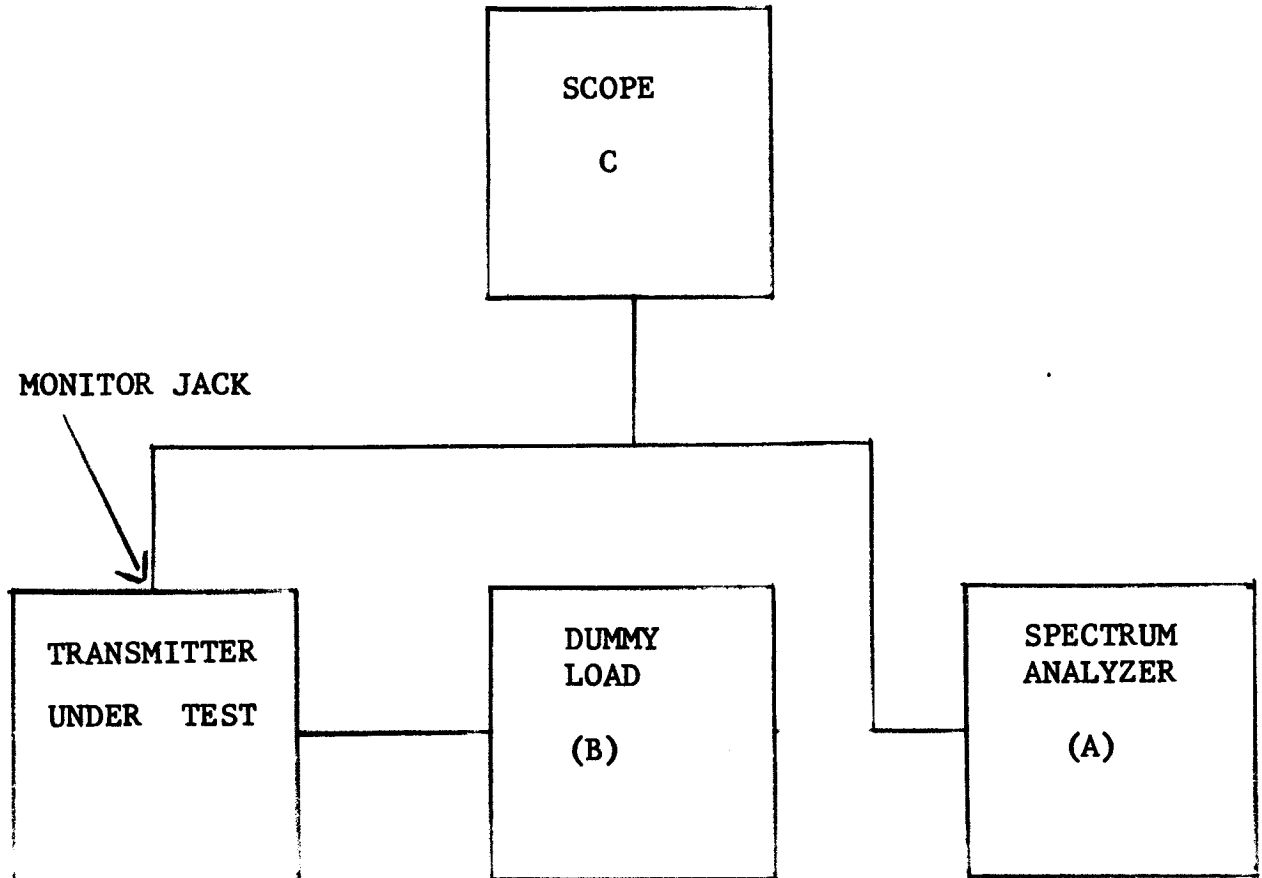

FIGURE 2.2
- a. Connect the equipment as shown in Figure 2.2